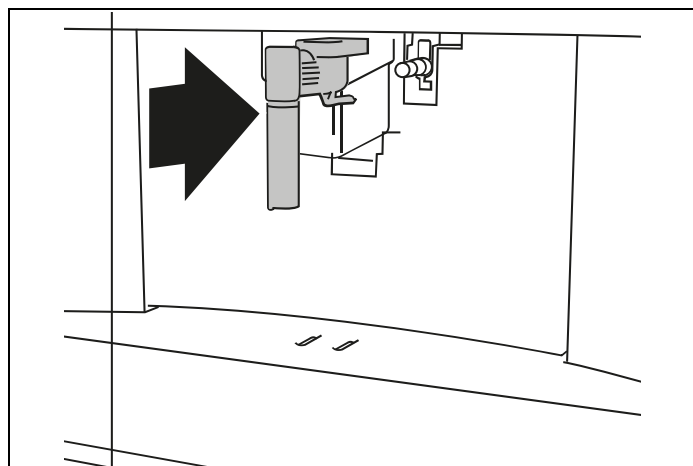
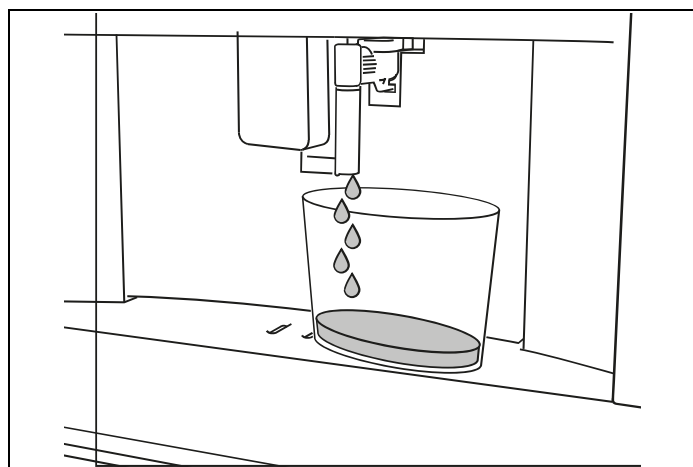

Fig. 21
Fig. 22
- 4) INSERT WATER OUTLET:** Check that the hot water/steam spout (C6) is inserted on the connection nozzle (A10) (Fig. 21) and place a container with a minimum capacity of 100 ml underneath (Fig. 22);
6) Press **✓ OK** to confirm: the appliance delivers water from the spout (Fig. 22) then goes off automatically.